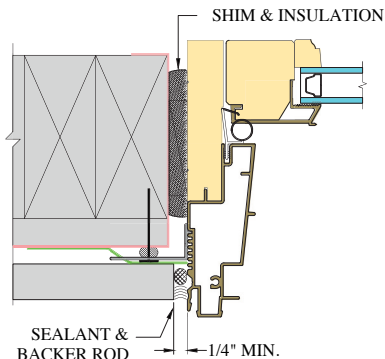

FIG. 30: SIDE JAMB – NAIL FIN INSTALLATION
- After siding or wall exterior is complete, apply backer rod and sealant between the door frame and siding material on both sides. See figures 30 and 31 for nail fin installation and figures 32 and 33 for no nail fin installation.
- C) Insulate between the door frame and the rough opening using minimally expanding window and door spray foam insulation. Use caution to not overfill the gap causing the jambs to bow. It is not recommended to apply trim to the unit until the foam has cured to allow the excess to escape. (Fig. 30, 31, 32 & 33)